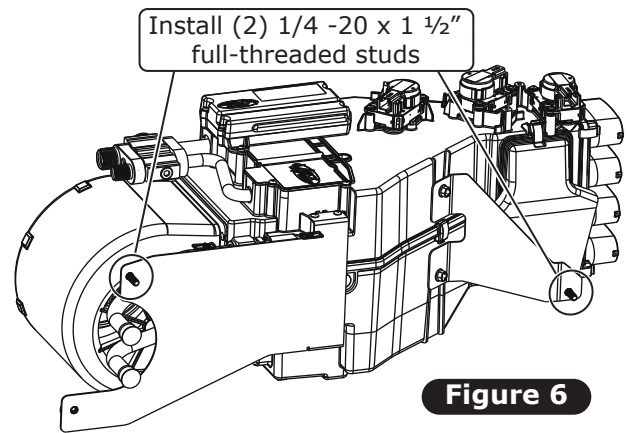

Figure 6
8. Install (2) 1/4-20 x 1 1/2" full-threaded studs, (1) on the top mounting hole of the passenger-side bracket and (1) on the driver-side bracket (See Figure 6, below). Thread the studs halfway in. **NOTE: If the studs are sticking out too far, it may cause interference issues when mounting the unit under the dash due to the tight clearance.**